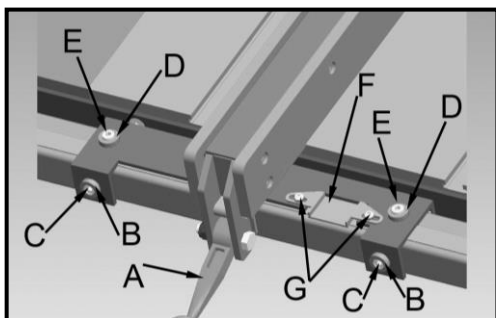
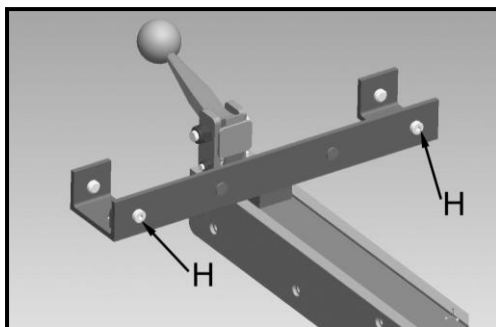

Figure 25: Location Of Set Screws
Figure 26: Adjust Set Screw
1. The rip fence must be perfectly aligned with the table T-slot, to verify this, align the edge of the rip fence with the table T-slot and lower the locking lever (A) (See Figure 25) to lock in into place. Check to see if the edge of the rip fence and the table T-slot are parallel. If they are not parallel, unlock the rip fence and turn it upside down. Adjust the set screws (H) (See Figure 26). in or out, verify your adjustment, repeat if necessary.
2. Lock lever pressure can be adjusted by loosening the front lock nuts (B) and adjusting the set screws (C) the same amount, make sure the fence remains parallel with the table T-slot. Retighten lock nuts.
3. To set the fence perpendicular to the table, place a square on the table and against the side of the fence, loosen the top lock nuts (D) and adjust the setscrews (E) until the fence is perpendicular. Tighten lock nuts.
4. The pointer window (F). position can be adjusted if needed, loosen pan head screws (G), reposition the pointer window and retighten pan head screws.